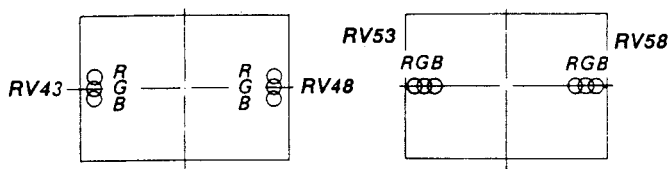

Fig. 1-22
2. Adjust RV43, RV48 and RV53, RV58 on the DB board to coincide with the R, G and B dots as shown in Fig. 1-22.